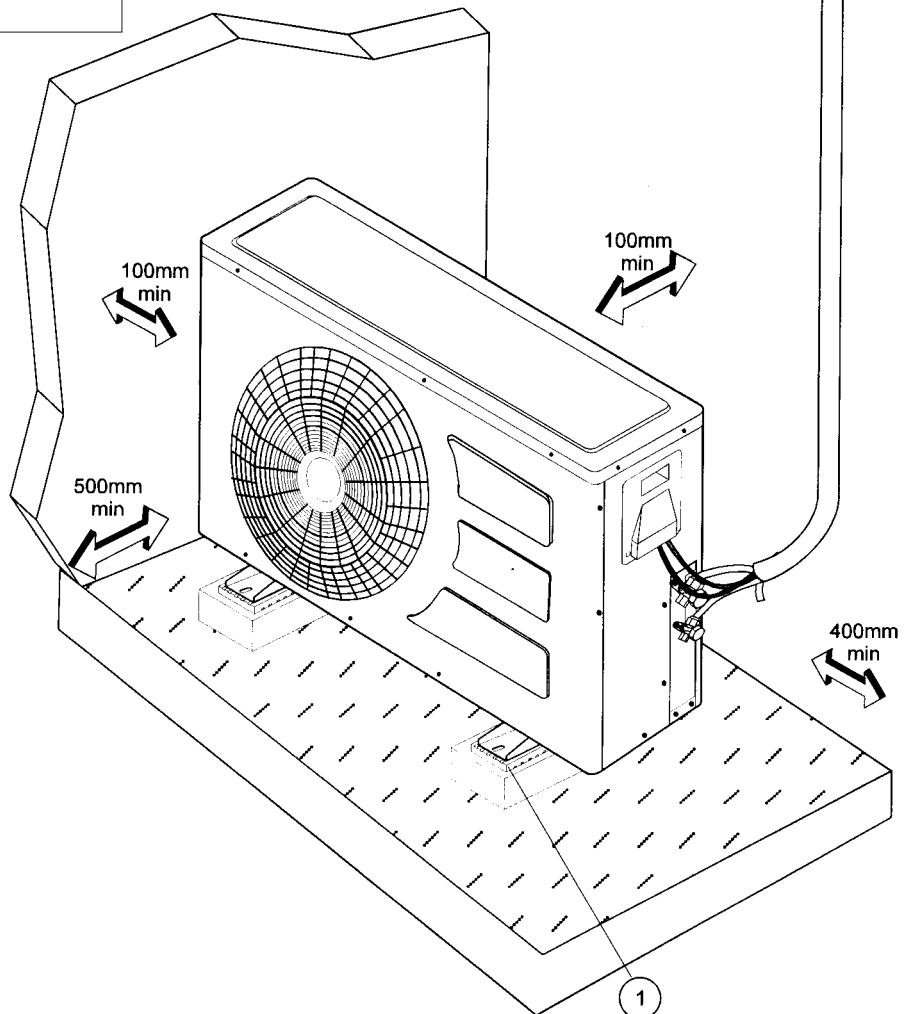

Fig 6
2. For route (6), cut the bottom notch in the rear.
3. For routes (5) or (7), cut the side notches in the rear and in the front panel.
- Fig.6